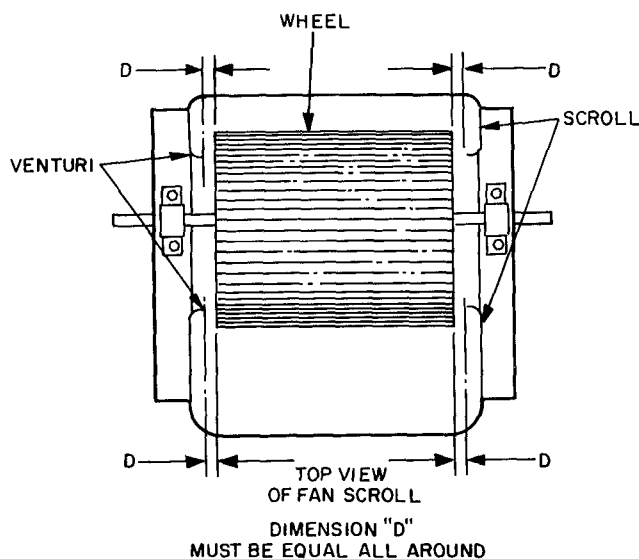

Fig. 2 - Horizontal Wheel Centering
Horizontal Wheel Centering — All wheels must be horizontally centered between the inside edges of their fan scroll venturis (Fig. 2).
- b. Center wheel by sliding it horizontally (Fig. 2).
- b. Slide shaft and wheel assembly horizontally until wheels are horizontally centered (Fig. 2).